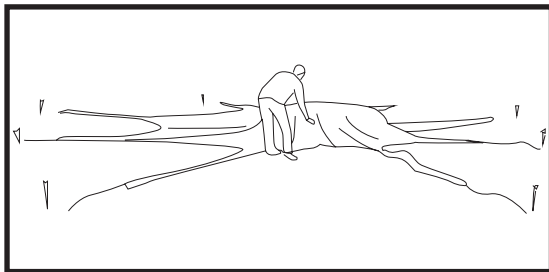

Fig. 14
15. Open the bag with your **Startent AIR**, then take the pole out of the bag and spread it towards the inside part of the tent. Then slip the pole under the canopy (Fig. 14).